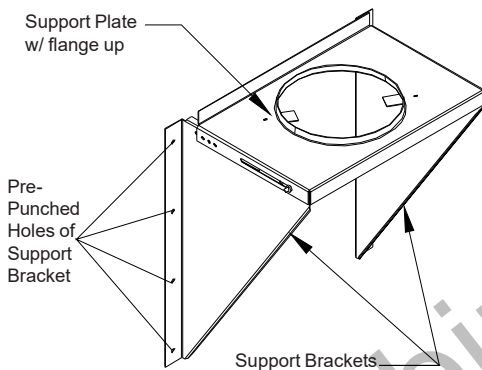

FIGURE 30 - Front view of Wall Support
6. Using the pre-drilled holes of the support brackets as a template, drill 4 holes for each bracket. Secure the Support Brackets to the wall by installing four (4) 1/4" x 2" lag bolts for each side (Figures 30 and 32).
12. Prior to tightening all fasteners of the Support Plate ensure the Insulated Tee assembly is plumb and level and sitting flush on the base plate and all clearances have been met (see Figures 30 and 32).